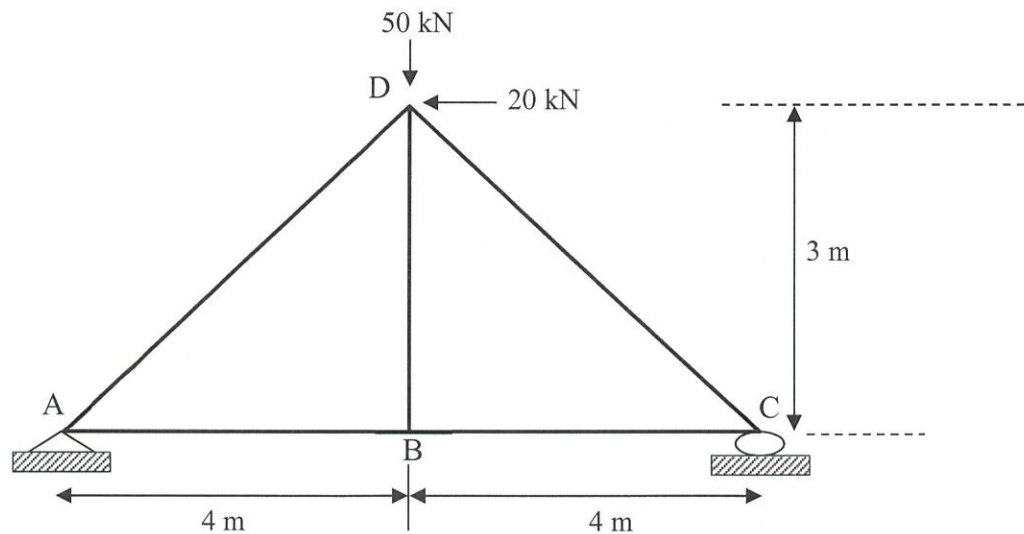

Figure A1(a) / Rajah A1(a)
- (a) A statically determinate truss with external horizontal load, 20 kN and vertical external load 50 kN is shown in Figure A1(a). Identify the internal force in each member of the truss by using the Method of Joint.